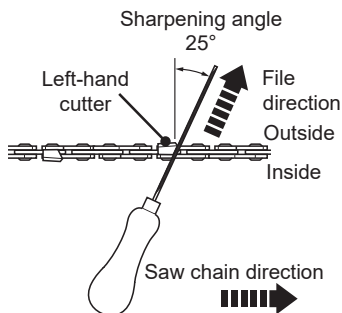

Fig. 40
5. File at an angle perpendicular to the bar, and at an angle of 25° to the direction of travel (Fig. 40).